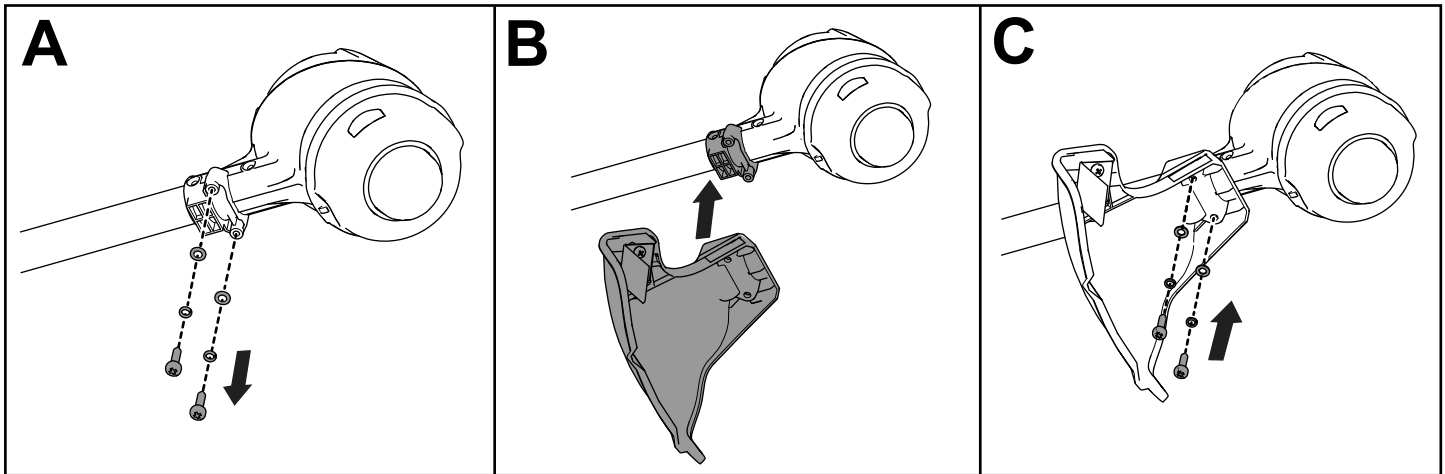

Figure 5
1. Using a Phillips head screwdriver, remove the 2 screws, 2 washers, and 2 spacers from the trimmer base (A of Figure 5).
2. Align the guard onto the trimmer base (B of Figure 5).